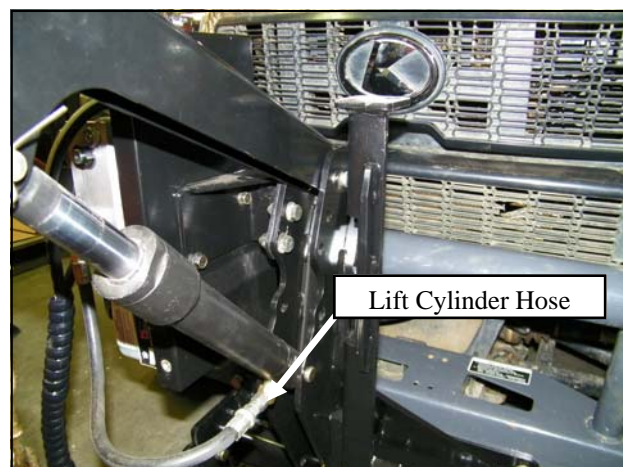

Fig. 14.4 Lift Cylinder Hose orientation
- 14.5 Attach and tighten the swivel end of the 12" long hydraulic hose to the elbow on the fixed end of the lift cylinder that was installed in step 9. See Fig 14.4.